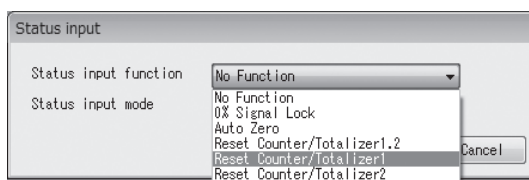

Fig.58
- ③ Click the triangle on the right side of "Status input function" as shown in Fig. 58, and select the output level from the drop-down list.